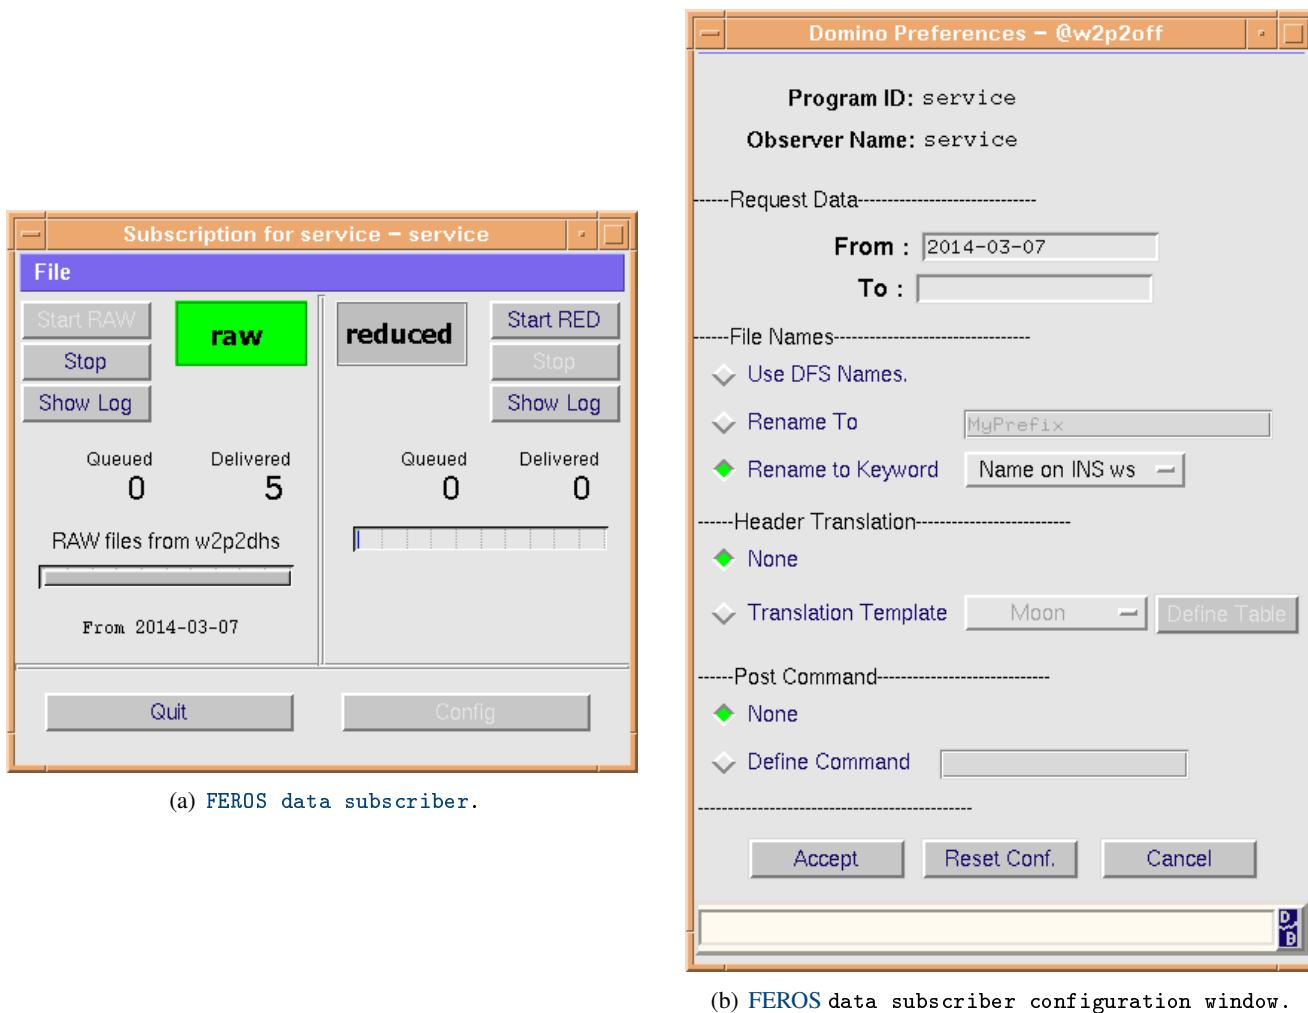

Figure 10.3: FEROS data subscriber.
- A. Stop **data subscriber** and **DRS** at the **DRS** computer (Fig. 10.3(a), p. 81).
- C1. Left click start **data subscriber** and configure it (Fig. 10.3(b), p. 81).